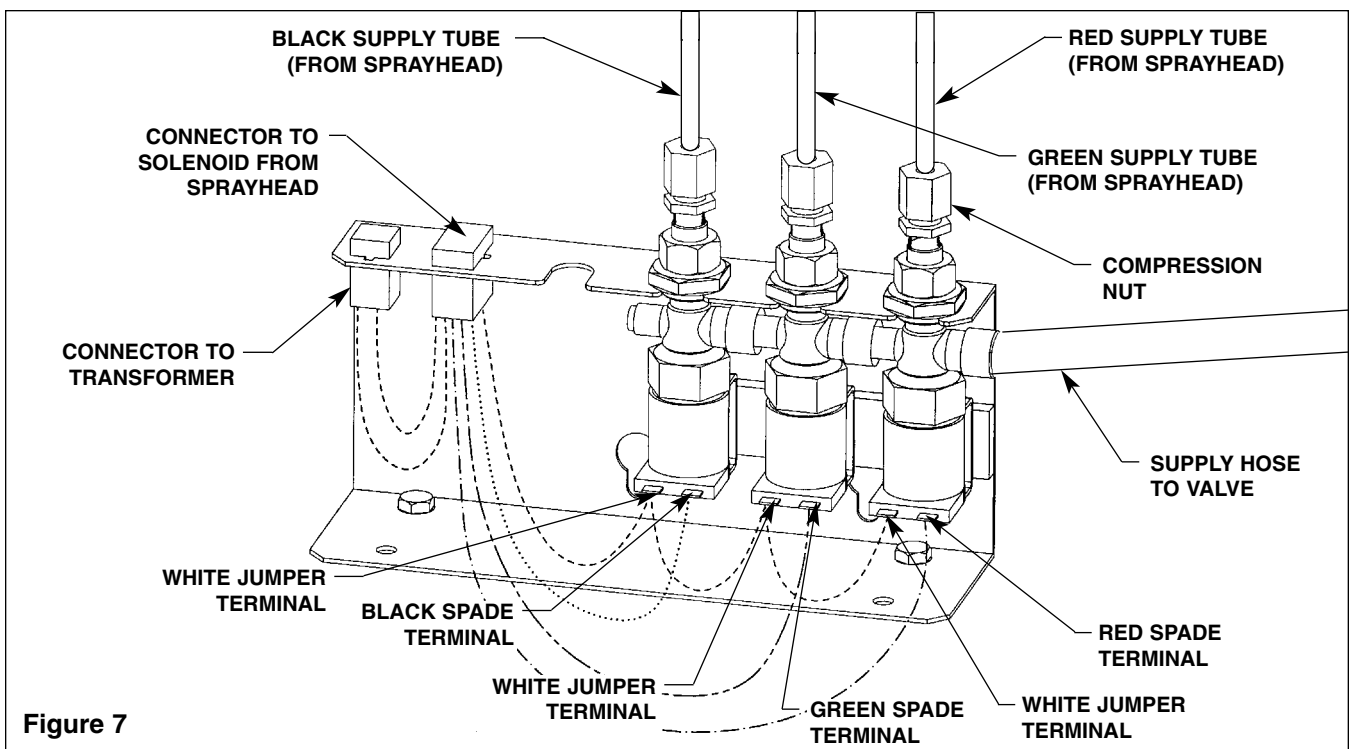

Figure 7
3. Insert the three sprayhead supply tubes into the three solenoid tube connectors by loosening the compression nut and firmly pushing the tubing into the tube connector until the tubes are fully seated, then re-tighten the compression nut hand-tight plus two full turns with a wrench (see Figure 7).